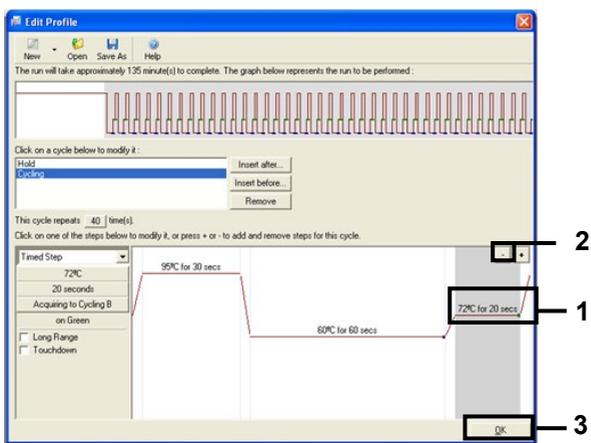

Figure 9. Removal of the extension step. (1 = Third step; 2 = "Delete"; 3 = "OK")
11. Highlight the third step and delete and click - to delete. Click **OK** (Figure 9).